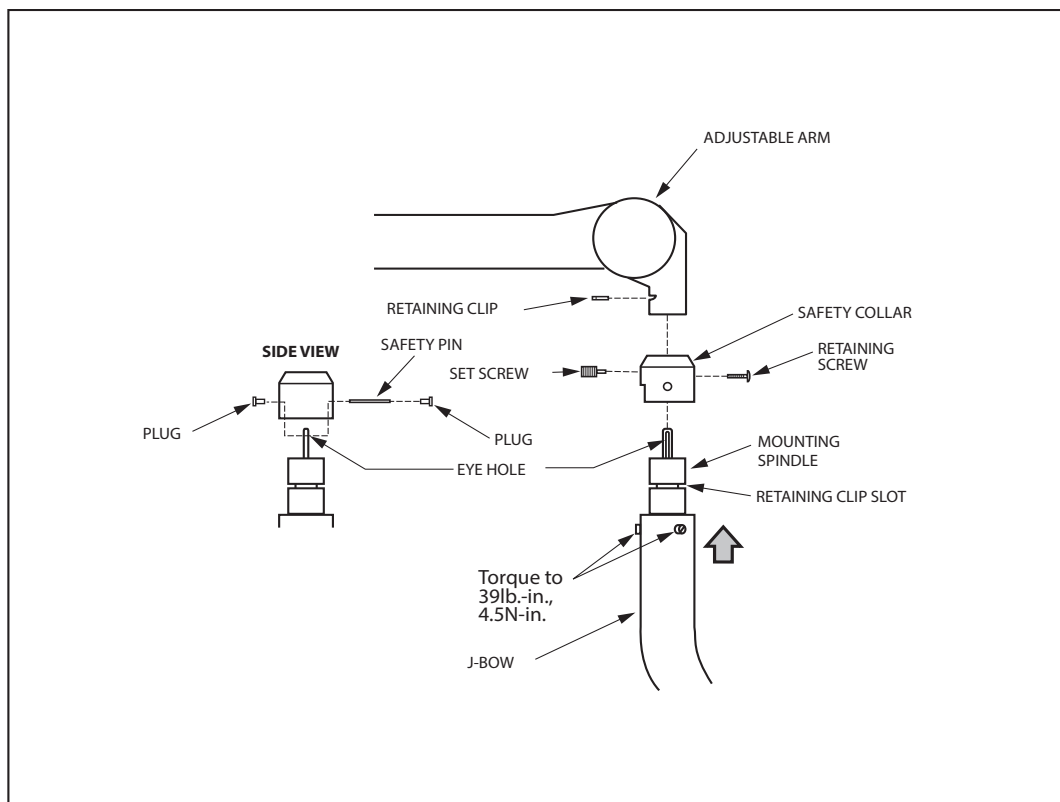

Figure 5 J-Bow to Horizontal Arm
- Refer to Figure 5.
9. Prior to installation of injector as outlined in this section, ensure the three fasteners attaching J-Bow to the Mounting Spindle are present and are tight (Torque - 39lb-in, 4.5N-m). Refer to Figure 5.